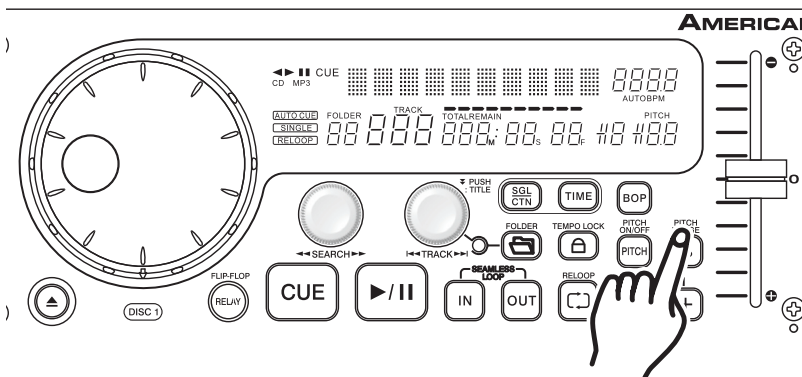

Figure 29
**Using the Pitch Slider Percentage Selector (3):** You may choose a pitch operating range at any time. To change the operating range be sure the pitch function is turned on, see figure 29. The pitch percentage can be changed between +/-4%, +/-8%, +/-16%, or (+/- 100% for CD). 4% will allow the least amount of pitch manipulation and 16% or (100% for CD) will allow the most amount of pitch manipulation. To adjust the different values, tap on the % **BUTTON (11)** until your desired value is reached.